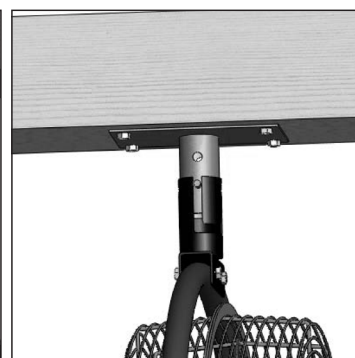

Figure 5:
3. Slide Connector Bracket onto Ceiling Mounting Post. (See Figure 5)